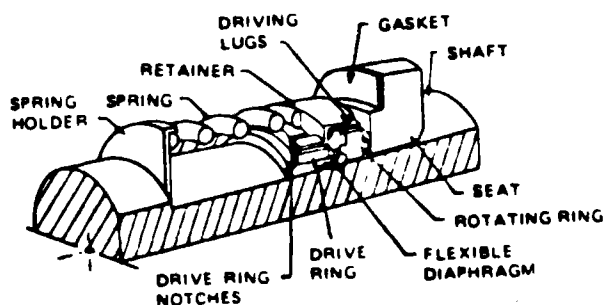
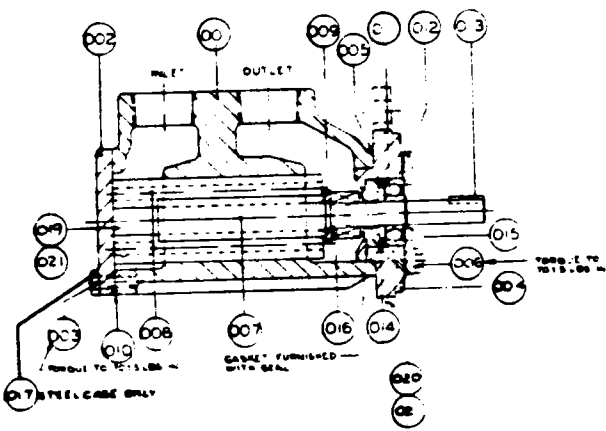
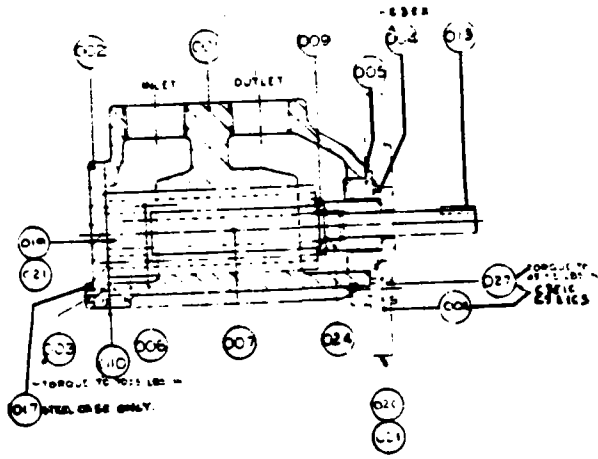
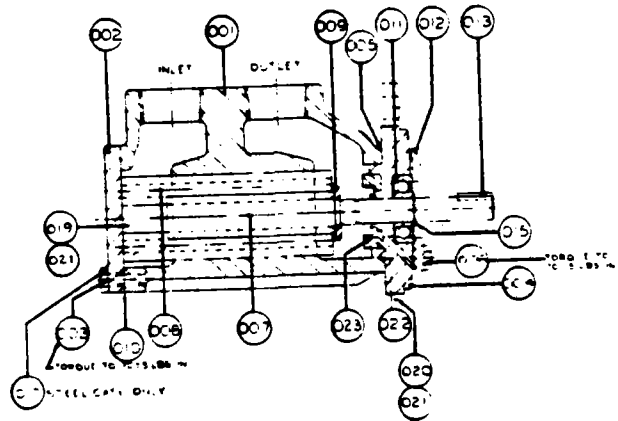

FIGURE 2. CRANE Type 21 Mechanical Seal Assembly.
FIGURE 3. Assembly Drawing SC6112.
FIGURE 4. Assembly Drawing SC6113.
FIGURE 6. Assembly Drawing SC6115.
Two types of seals are installed in the C3E pumps. A Buna Lip Seal (023) is installed in Figures 6 and 7 pumps. The lip of the seal (023) conforms to the power rotor (007) by pressure in the discharge chamber for sealing. Integral mounted pumps, Figure 4, are not equipped with a seal. Mechanical seals, CRANE Type 21 are installed in Figures 3 and 5 pumps. Refer to Figure 2 for an illustration of the CRANE Type 21 Mechanical Seal Assembly.
FIGURES 3 and 4: Complete General steps, then remove retainer bolts (006) and retainer (012). Remove cover and power rotor assembly by rotating the power rotor (007) in the direction opposite to its normal rotation and simultaneously pull the cover (004) and power rotor assembly from the pump housing (001). Removal of the cover (004) and power rotor assembly includes removal of the gasket (005), power rotor (007), idler stop (009), ball bearing (011), truarc rings (014) and (15) and mechanical seal (016).
FIGURE 4: Prepare pump for disassembly following General steps then remove capscrews (027). Remove cover (004) from housing (001). Remove power rotor (007), piston (024) and idler stop (009) from housing by rotating the power rotor (007) in the direction opposite to its normal rotation and simultaneously withdraw the power rotor (007).
FIGURES 6 and 7: Complete General steps, then remove bolts (006) and retainer (012). Remove cover and power rotor assembly by rotating the power rotor (007) in the direction opposite to its normal and simultaneously pull the cover (004) and power rotor assembly from the pump housing (001). Removal of the cover (004) and power rotor assembly includes removal of the gasket (005), power rotor (007), ball bearing (011), truarc ring (015), lip seal retainer (022) and lip seal.
FIGURES 3 and 5: Clean gasket (005) seating surfaces and mechanical seal gasket seating surface. Install mechanical seal gasket, mechanical seal seat and truarc rings (014) in cover. Wipe the outer race of ball bearing (011) with lubricating oil and install ball bearing (011) in cover (004). Place new mechanical seal (016) on power rotor (007).
FIGURE 4: Install power rotor (007) in housing (001). Place gasket (005) and cover (004) on housing (001) and install capscrews (027). Torque capscrews (027) to 45" lbs. (± 5 " lbs.) on C3E1C and C3E1CS pumps. Contact Transamerica Delaval for correct torque measurement of C3EX pumps.
FIGURES 6 and 7: Install lip seal (023) in lip seal retainer (022). Wipe outer race of ball bearing (011) with lubricating oil and install ball bearing (011) in cover (004).
FIGURES 3 and 6 (SAE "A" Flange Mounted): SAE "A" flange mounted pumps are equipped with two 7/16-inch diameter holes for mounting in any attitude. The pump inlet and outlet ports can be located 90 degrees from the mounting holes. A "C" Face motor bracket is available for mounting to "C" Face motors.
FIGURE 4: Integral flange mounted pumps are equipped with four 7/16-inch diameter holes equally spaced on a 4-1/2-inch diameter bolt center for mounting in any attitude.
LIST OF MATERIAL FOR FIGURES 3 THROUGH 7